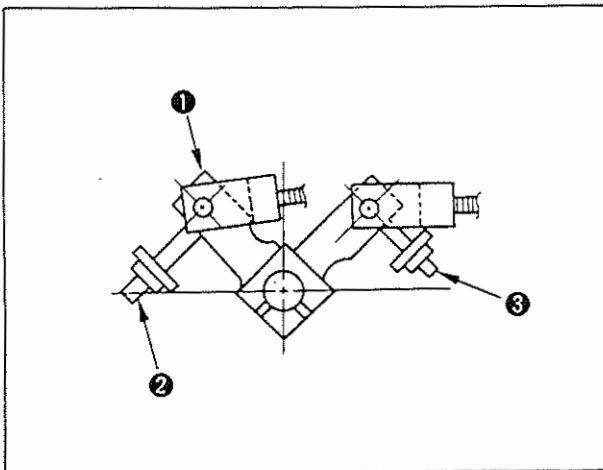

Fig. 7-9
- 1) Insert button gauge ① into button chuck ②, and adjust the inclination of the neck wraps properly.
- 2) Adjust so that Q of throat plate ③ and P of needle ④ come in contact with button gauge ① using inverting stopper screw ③ in Fig. 7-9).
- 3) Turn the knob to adjust neck wrap height to make button chuck unit ② move in direction of R. Then confirm the inclination of the neck wraps.
③ Adjusting the longitudinal position of the chuck unit